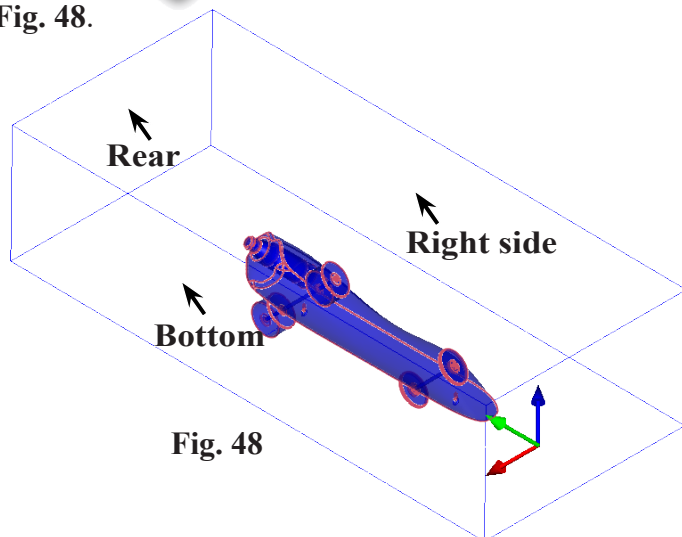

Fig. 48
4) Click the 3 remaining surfaces, **Fig. 48**.